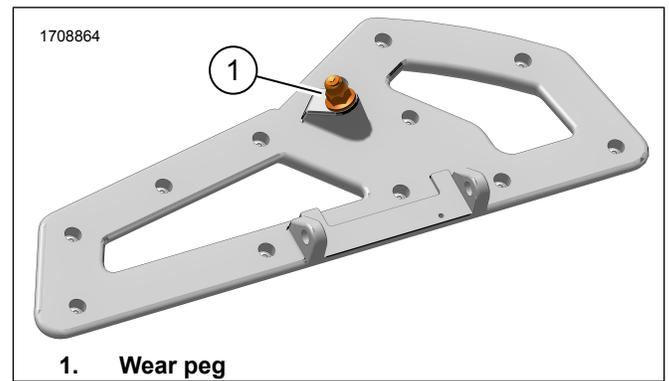

Figure 3. Floorboard Wear Peg (typical)
1. Figure 3 Remove existing wear peg (1) from floorboard.
2. Apply 2 or 3 drops of threadlocker to threads of **new** wear peg (1) and install.